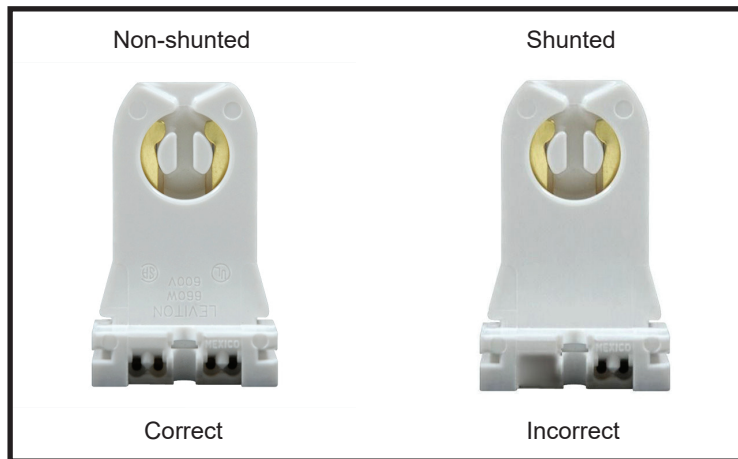

Fig. 1
5. Ensure the fixture to be retrofitted has non-shunted Bi-Pin lamp holders that have not been jumpered (See Fig. 1)
7. If necessary, replace lamp holders at power end with non-shunted lamp holders. (See Fig. 1)